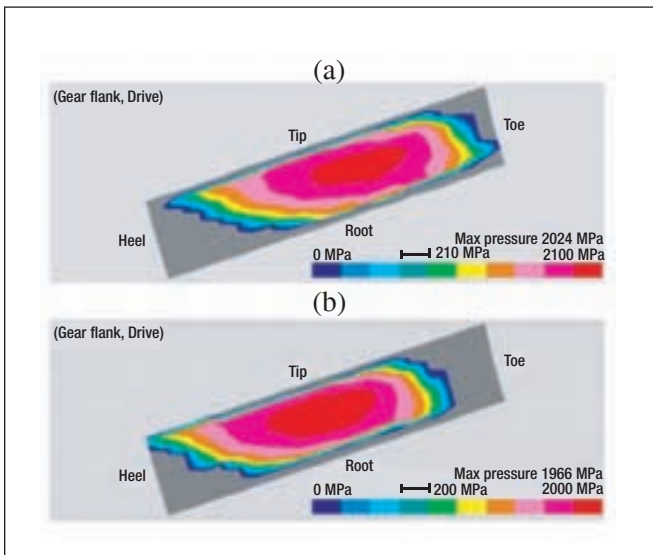

Figure 6—Contact patterns and stress distribution analyzed (a) without deflections; and (b) with deflections.
**Computer simulation of the impacts of deflections and flank modifications on hypoid gear contact pattern and stress distribution.** Given the validated axle deflections— $E$ ,  $P$ ,  $G$  and  $\alpha$ — $LTCA$  is used to investigate the impacts of axle deflections and flank modifications on gear contact pattern and stress distribution. In this paper, a hypoid gear designed with the face hobbing process is used as an example. Figure 6 (a) shows a loaded contact pattern and contact stress distribution simulated by the computer program without considering any deflections. From this figure, one may be concerned about the edge contact at toe while having no concern at heel. However, performing the same analysis—but with the consideration of the axle deflections—Figure 6 (b) clearly indicates this design may have edge contact at heel with no concern at toe. Based on Figure 6 (a), one may consider making a reasonable adjustment to shift the pattern toward heel, which will, in fact—as is evident in Figure 6 (b)—adversely worsen the contact by having severe edge contact at heel that could lead to early contact failure. Thus the gear contact pattern must be designed and developed appropriately, based on the axle deflection characteristics to avoid the unfavorable contact.